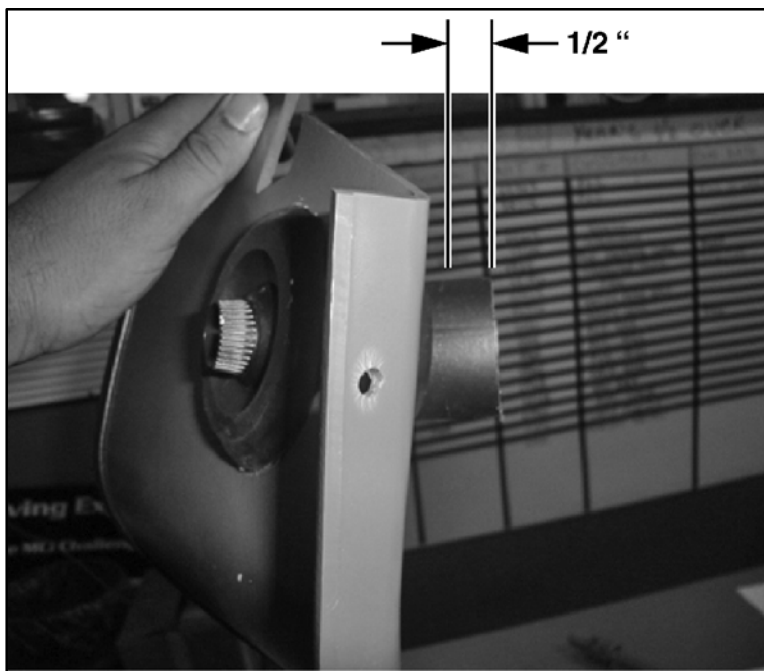

Figure 14. RH Under-Dash Kickpanel
41. Before installing the RH under-dash kickpanel cut 1/2" from the straight part of the gasper assembly (refer to Figure 14).